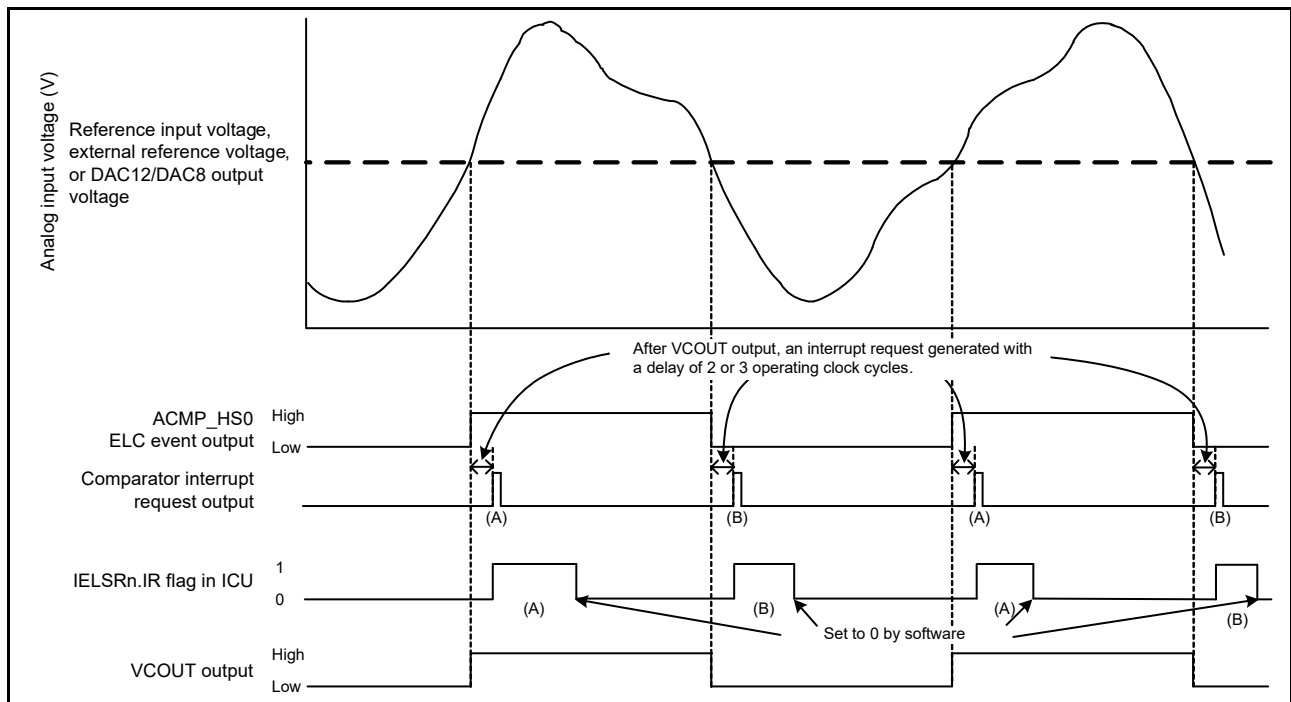

Figure 38.2 ACMPHS operation example
Figure 38.2 shows an example of ACMPHS operation. The V_{COUT} output becomes 1 when the analog input voltage is higher than the reference input voltage, and the V_{COUT} output becomes 0 when the analog input voltage is lower than the reference voltage. When the ACMPHS output changes, an interrupt request and an ELC event are output.
Figure 38.2 applies when CPOE = 1 (pin output enabled), CDFS[1:0] = 00b (filter not used), and CEG1 = CEG0 = 1 (both edge selection). When CINV = 0, CEG0 = 1, and CEG1 = 0 (rising edge selection for non-inversion output signal from the ACMPHS), the ICU.IELSRn.IR flag changes as shown by (A) only. When CINV = 0, CEG0 = 0, and CEG1 = 1 (falling edge selection for non-inversion output signal from the ACMPHS), the IR flag changes as shown by (B) only. When CPOE = 1, V_{COUT} directly outputs the ELC event output.